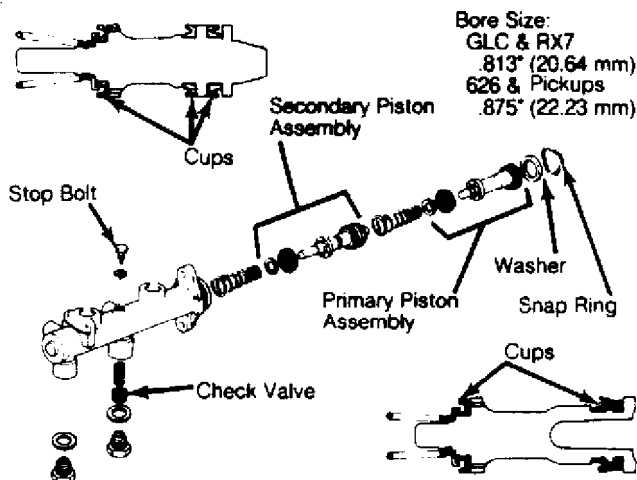

Fig. 6: Exploded View of Typical Master Cylinder
- 1) Thoroughly clean outside of master cylinder, and pour out any remaining brake fluid. If equipped, remove reservoir and dust boot. Depress primary piston assembly. See Fig. 6.